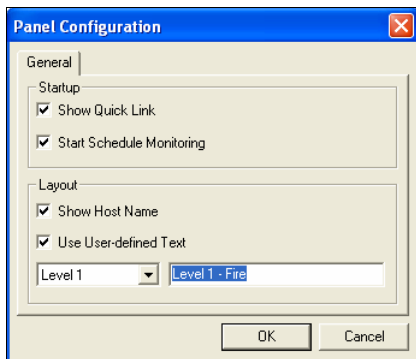

Figure 4-41
- To open the Quick Link window at panel startup, check the **Show Quick Link** option in Figure 4-41.